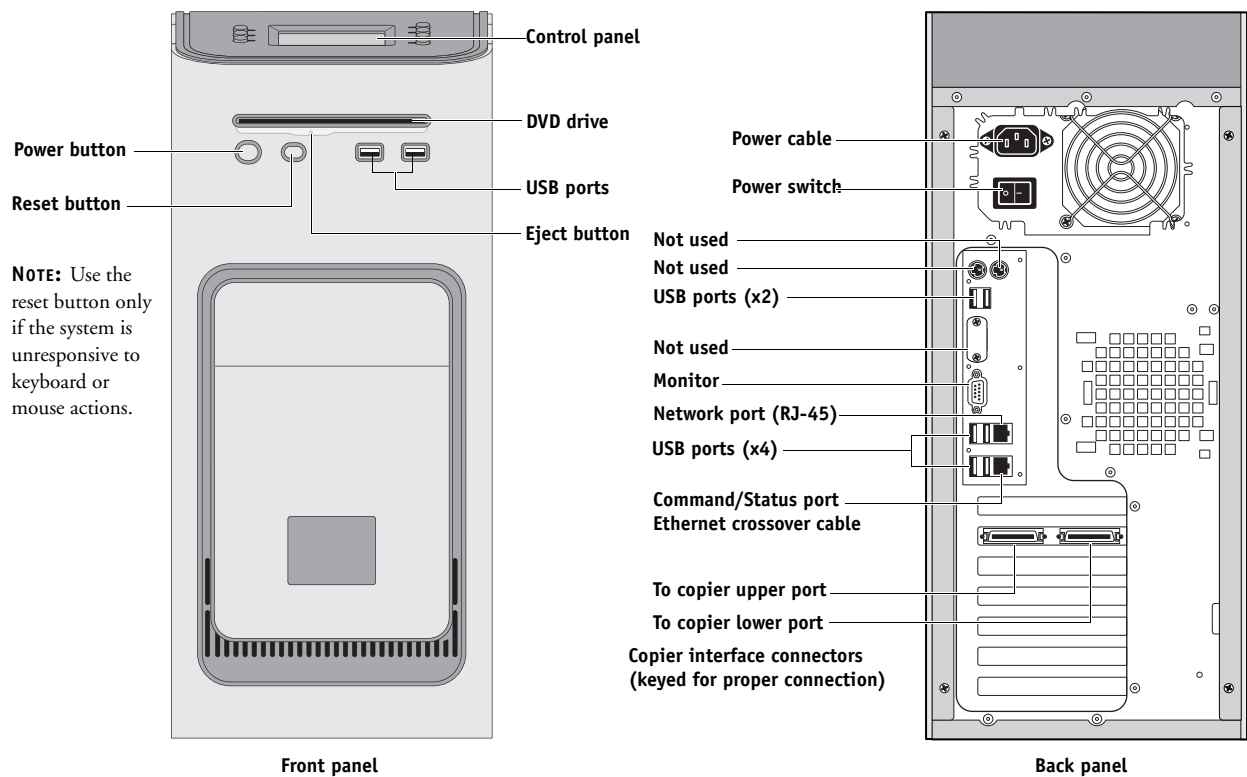

FIGURE 42: imagePRESS Server external cable connections
- All interface cables to the system are plugged into the proper connectors (see Figure 42).